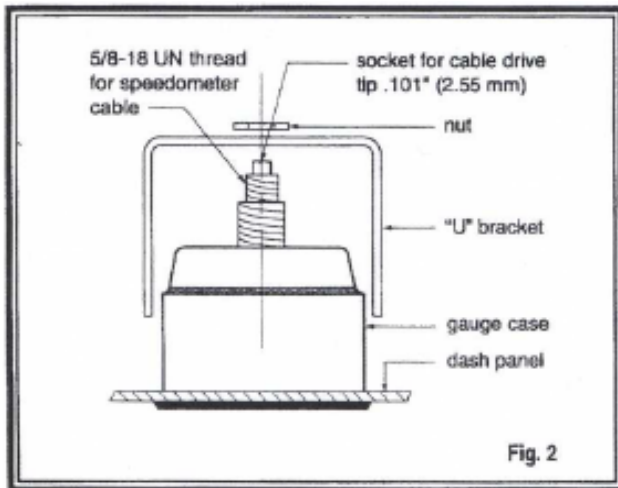

Fig. 2
3. Cut bracket as required, then re-install over the center post. (See Fig. 2) Thread on large nut and tighten, again using caution to avoid over-torquing.